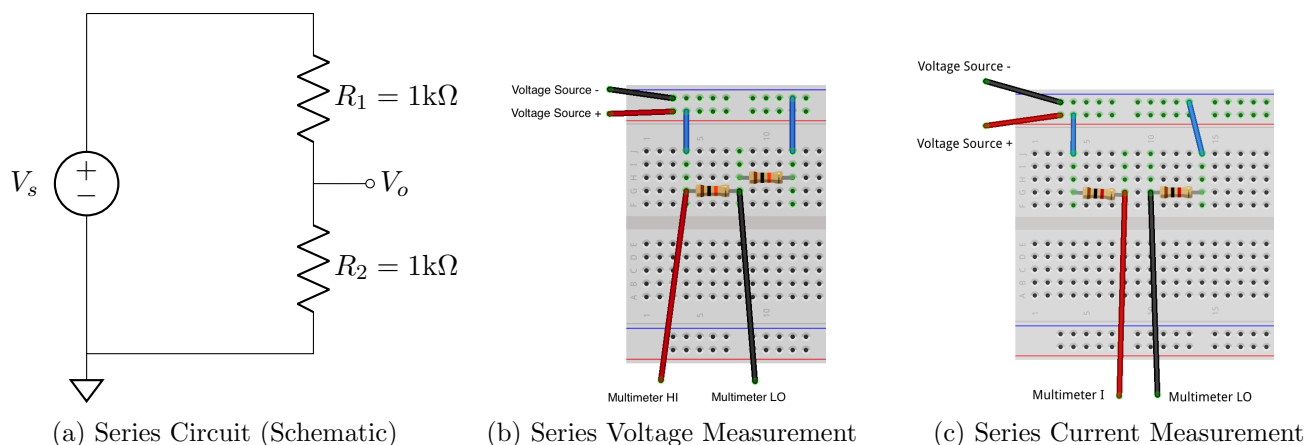
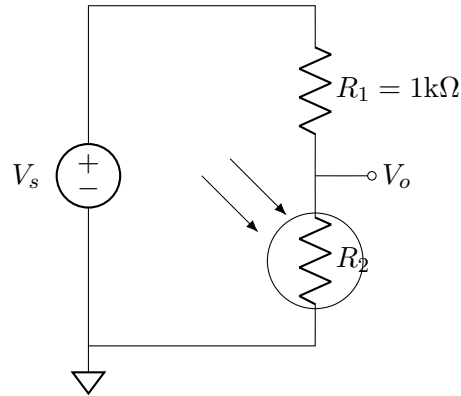

Figure 4: Measuring Series Resistors
Figure 6: Light-dependent voltage divider circuit
Build the circuit shown below in Figure 4 which features a pair of $1\text{k}\Omega$ resistors wired in series.
- 1 pts** 3.2 Measure the voltage across, and current through, each resistor in Figure 4. Use Figures (b) and (c) to aid in your measurement process. The voltage source $V_s = 5\text{V}$. R_1 and $R_2 = 1\text{k}\Omega$
- 1 pts** 3.3 Using Ohm's Law and KVL/KCL, what can one expect the voltage across, and current through, each resistor in Figure 4 to be? The voltage source $V_s = 5\text{V}$. R_1 and $R_2 = 1\text{k}\Omega$
3.4 Replace the resistor R_2 in Figure 4 with a $4.7\text{k}\Omega$ resistor. Measure the voltage across, and current through, each resistor in Figure 4.
3.5 Using Ohm's Law and KVL/KCL, what can one expect the voltage across, and current through, each resistor in Figure 4 to be? The voltage source $V_s = 5\text{V}$. $R_1 = 1\text{k}\Omega$ and $R_2 = 4.7\text{k}\Omega$
Now replace the resistor R_2 in Figure 4 with your LDR as shown in the schematic in Figure 6. Use your voltmeter to measure V_o in the dark (V_{dark}) and in the light (V_{light}).